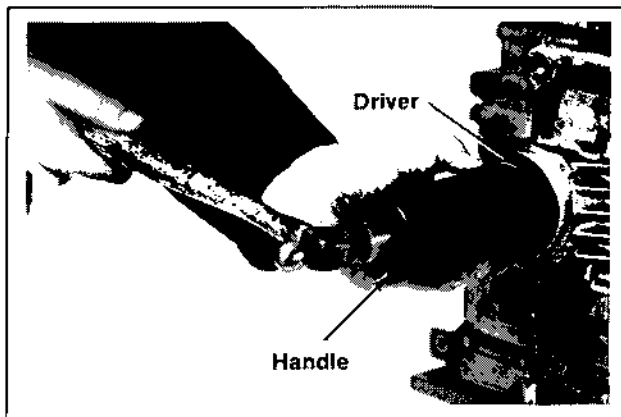

Figure 11-24. Installing Oil Seal Using Driver.
2. Using the #11795 handle and appropriate seal driver, install the front oil seal to a depth of $\frac{1}{32}$ " ($+\frac{3}{64}$ "; $-\frac{1}{64}$ "). Refer to Figure 11-24.
6. Using the #11795 handle and appropriate seal driver, install the rear oil seal to a depth of 5/32" (+3/64"; -1/64"). Refer to Figure 11-24.